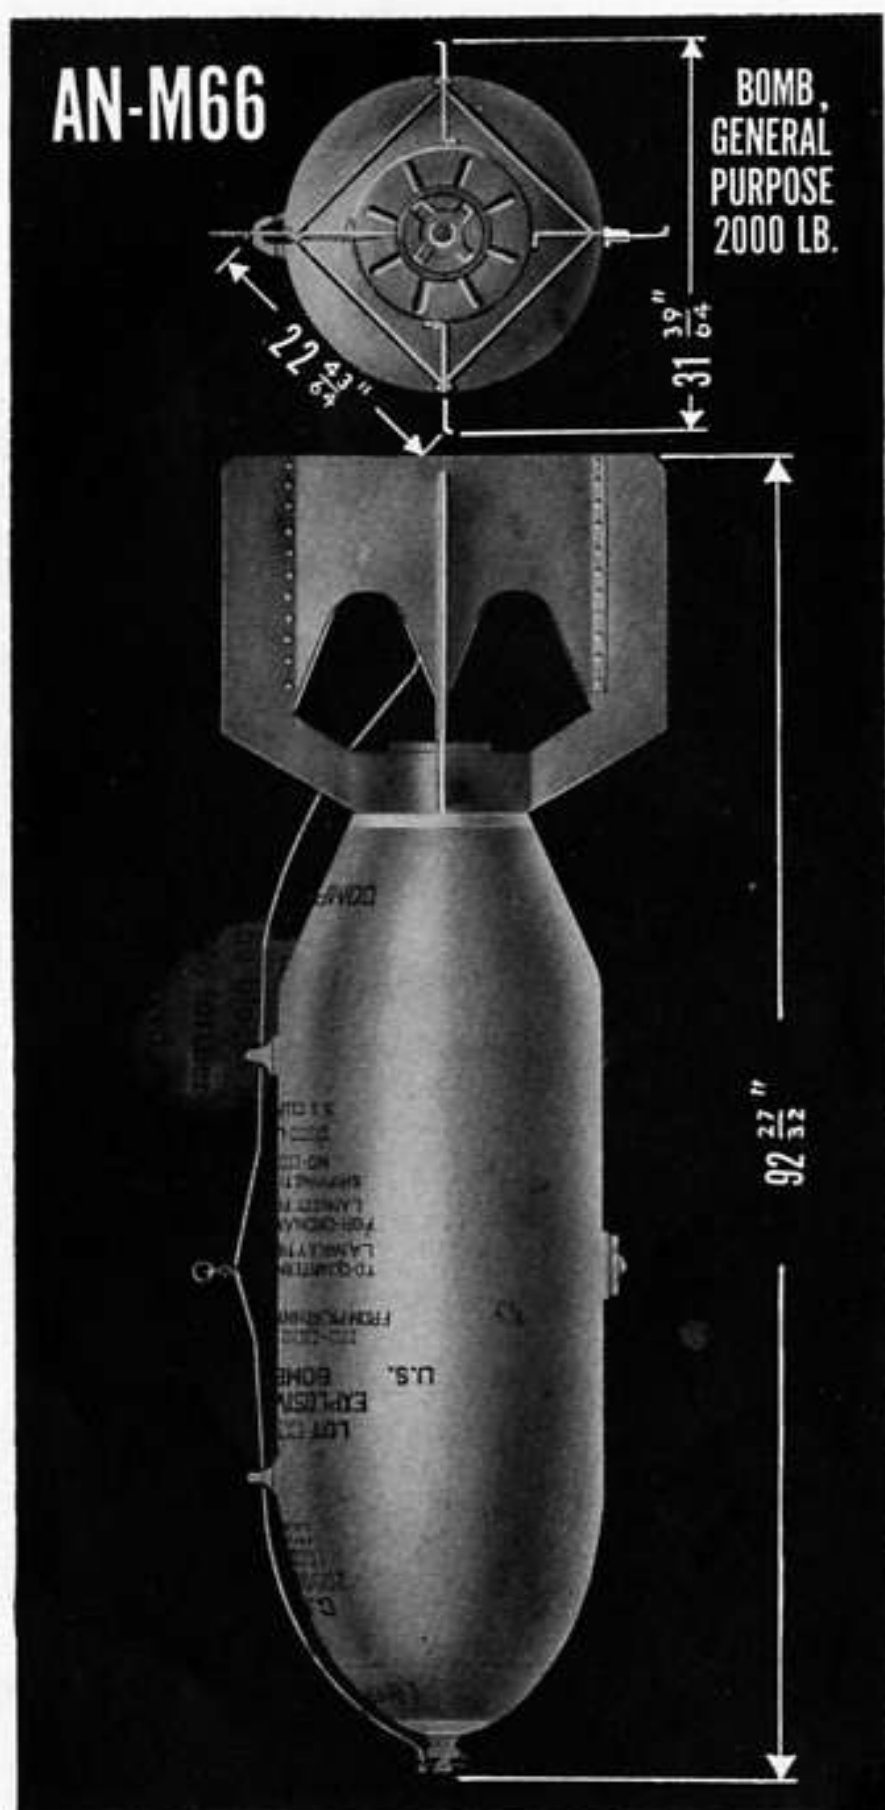

Figure 92. BOMB, G.P., 2,000-lb., AN-M66.
(1) BOMB, G.P., 1,000-lb., M65A1 differs in that the adapter booster and base plug may be locked in place.
(2) BOMB, G.P., 1,000-lb., M65, differs in not having the single suspension lug. It may be used whenever single lug suspension is not required.
(3) BOMB, G.P., 1,000-lb., AN-M44, differs in not being adapted for the hydrostatic fuze.
(4) BOMB, G.P., 1,000-lb., M44, differs in not having the single suspension lug and in not being adapted for the hydrostatic fuze.
(5) BOMB, demolition, 1,000-lb., M44, differs in not having the single suspension lug, in not being adapted for the hydrostatic fuze, and in having a base cap instead of a base plug.
78. BOMB, G.P., 2,000-LB., AN-M66. a. Data. BOMB, G.P., 2,000-lb., AN-M66, is a cylindrical bomb which is 92.83 inches long and weighs 2,053 pounds, as released. (See fig. 92.) The bomb body is 71 inches in length and 23.29 inches in diameter. It weighs 2,008 pounds of which 1,061 pounds, 53 percent of the complete round, is explosive charge.